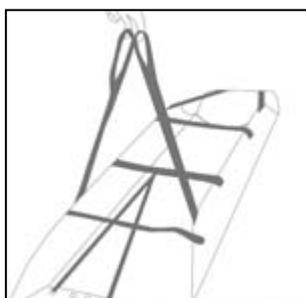

Fig. 10
- Make sure the two ends of the belt are equally long and repeat the operation at the other end of the stretcher (fig. 10).